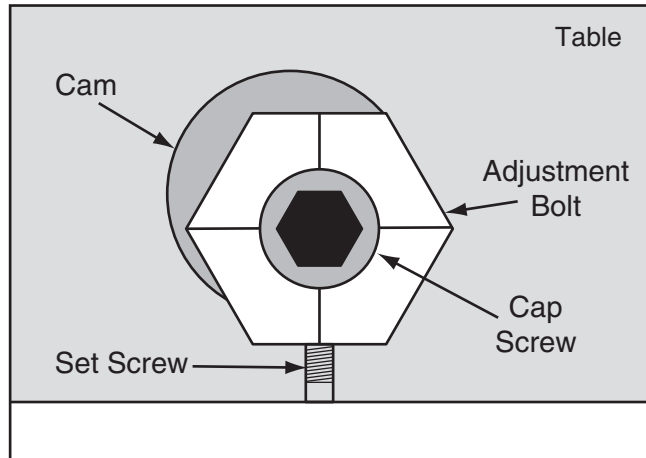

Figure 72. Illustration of the table adjustment bolt components.
12. Loosen the jam nut and adjust the outfeed stop bolt underneath the table so that it just touches the bottom of the tables, as shown in **Figure 72**, then re-tighten the jam nut.